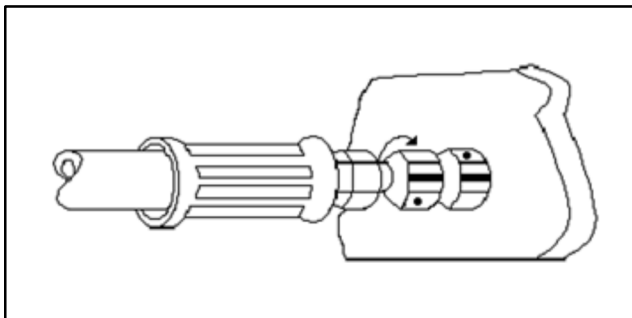

Figure 5-13. FFWR Method
2. Mark a dot on one of the swivel hex nut flats and another dot in line on the connecting tube adapter. See Figure 5-13.,
3. Use the double wrench method, turn the swivel nut to tighten as shown in Figure 5-13., The nut is to be rotated clockwise the number of hex flats as defined by the applicable Table in Section 5.0.
4. After the connection has been properly tightened, mark a straight line across the connecting parts, not covering the dots, to indicate the connection has been properly tightened. See Figure 5-13.,